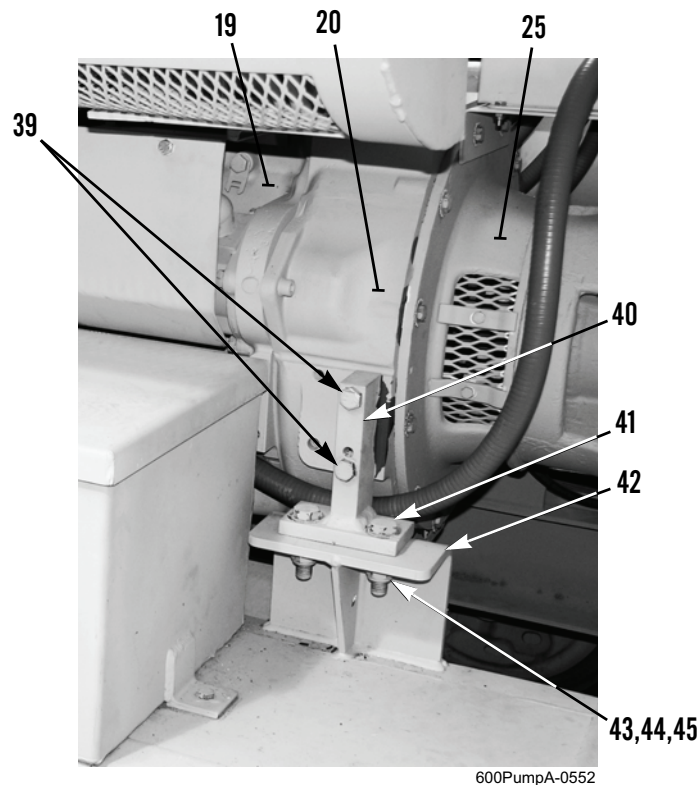

Figure 8. Left Rear of Engine.
14. Remove two bolts (Figure 8, Item 39) from left-rear engine mount (Figure 8, Item 40) and engine flywheel housing (Figure 8, Item 20).
15. Remove two locknuts (Figure 8, Item 43), lockwashers (Figure 8, Item 44), washers (Figure 8, Item 45), bolts (Figure 8, Item 41), and left-rear engine mount (Figure 8, Item 40) from trailer frame (Figure 8, Item 42). Discard locknuts and lockwashers.
16. Using lifting device, separate engine (Figure 8, Item 19) from intermediate housing (Figure 8, Item 25) by pulling engine forward and straight away from intermediate housing.
17. Place engine (Figure 8, Item 19) on suitable cribbing in a clean work area.